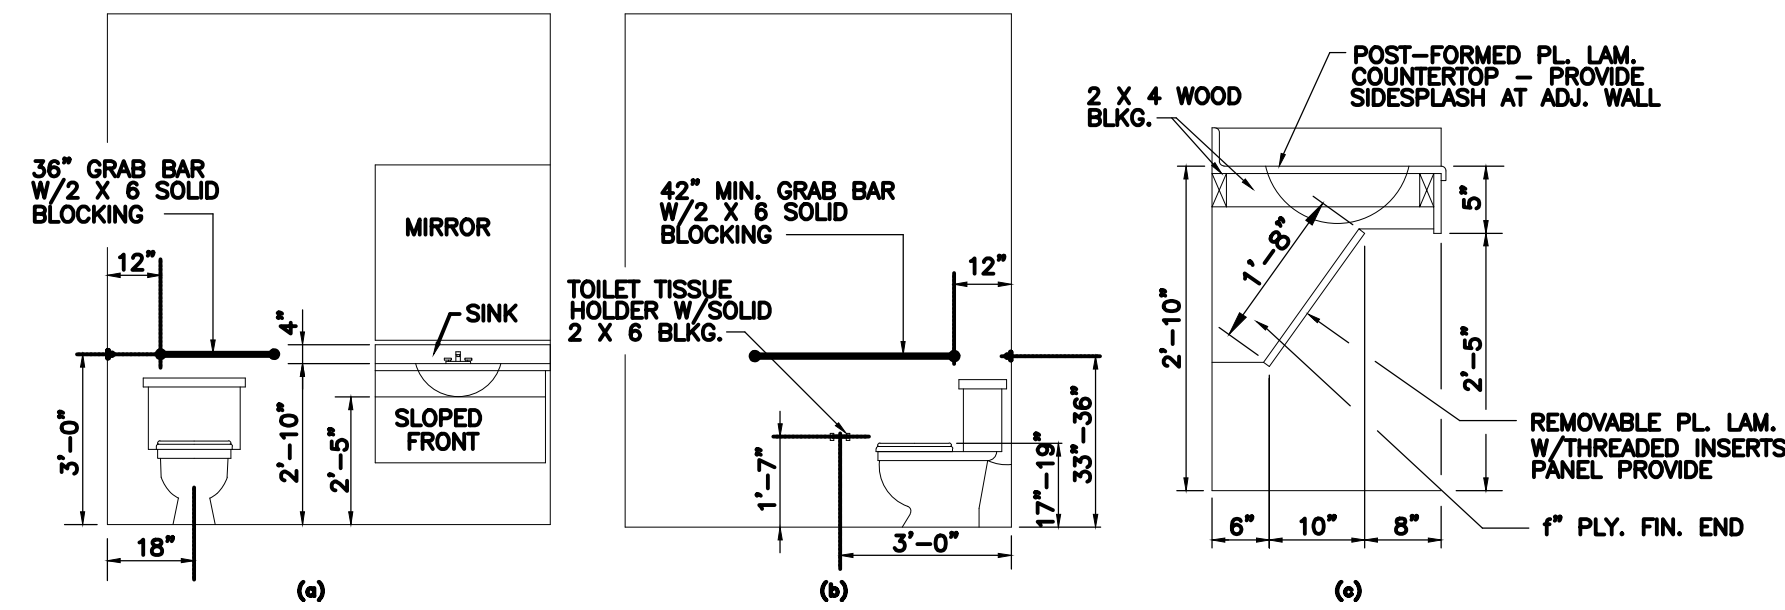

FIG. 31 LAVATORY & WATER CLOSET CLEARANCES
- 4.16.3 HEIGHT. THE HEIGHT OF WATER CLOSETS SHALL BE 17" TO 19" (430mm TO 485mm), MEASURED TO THE TOP OF THE TOILET SEAT. SEATS SHALL NOT BE SPRUNG TO RETURN TO A LIFTED POSITION (SEE FIG. 31).
- 4.16.4 GRAB BARS. GRAB BARS FOR WATER CLOSETS NOT LOCATED IN STALL SHALL COMPLY WITH 4.28 AND FIG. 31. THE GRAB BAR BEHIND THE WATER CLOSET SHALL BE 36" (915mm) MINIMUM.
- 4.16.6 DISPENSERS. TOILET PAPER DISPENSERS SHALL BE INSTALLED WITHIN REACH, AS SHOWN IN FIG. 31. DISPENSERS THAT CONTROL, DELIVER, OR THAT DO NOT PERMIT CONTINUOUS PAPER FLOW, SHALL NOT BE USED.
- 4.17.6 GRAB BARS. GRAB BARS MAY BE MOUNTED WITH ANY DESIRED METHOD AS LONG AS THEY HAVE A GRIPPING SURFACE AT THE LOCATIONS SHOWN IN FIG. 31 AND DO NOT OBSTRUCT THE REQUIRED CLEAR FLOOR AREA. GRAB BARS SHALL COMPLY WITH 4.28.
- 4.19.2 HEIGHT & CLEARANCES. LAVATORIES SHALL BE MOUNTED WITH THE RIM OR COUNTER SURFACE NO HIGHER THAN 34" (865mm) ABOVE THE FINISH FLOOR. PROVIDE A CLEARANCE OF AT LEAST 29" (735mm) ABOVE THE FINISH FLOOR TO THE BOTTOM OF THE APRON (SEE FIG. 31).
- 4.19.6 MIRRORS. MIRRORS SHALL BE MOUNTED WITH THE BOTTOM EDGE OF THE REFLECTING SURFACE NO HIGHER THAN 40" (1015mm) ABOVE THE FINISH FLOOR (SEE FIG. 31).